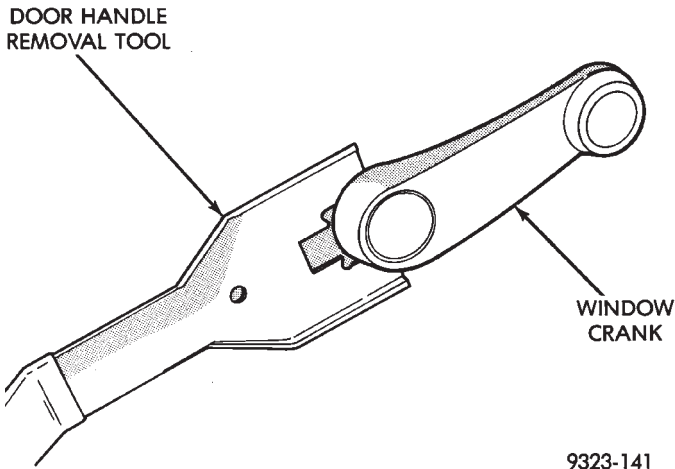

Fig. 7 Window Regulator Crank Handle Remove - Typical
- (1) Disconnect and isolate the battery negative cable.
- (2) If the vehicle is so equipped, remove the manual window regulator crank handle with a removal tool (Fig. 7).